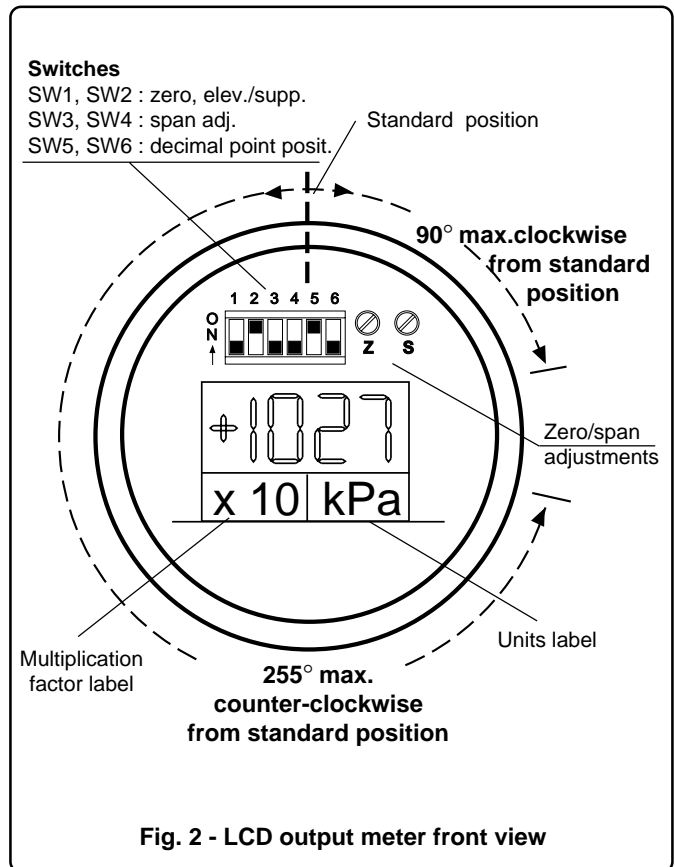

Fig. 2 - LCD output meter front view
The calibration can be performed in output current or percentage, or in process engineering units (see fig. 2).
- 2) Adjust the zero trimmer (Z) to read approximately the lower range value (LRV) on the digital meter.
- 4) Adjust the span trimmer (S) to read approximately the upper range value (URV) on the digital meter.
- 7) Complete the calibration procedure by fitting the multiplication factor label (if any) in the left recess below the display and the engineering unit label in the right recess (see fig. 2).